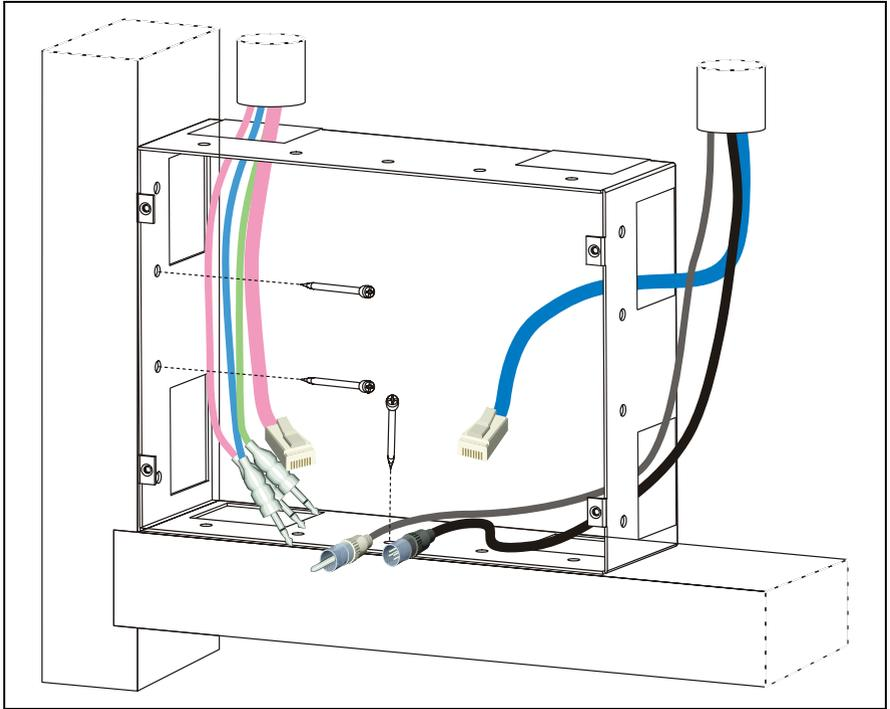

Figure 8 – Installing the C-Touch Colour Wall Box
- 3) Feed the cables through to the wall box. It is recommended that conduit be used. Refer to Figure 8. The number and positioning of cables will vary depending on the particular installation. Possible cables are listed in Table 1.